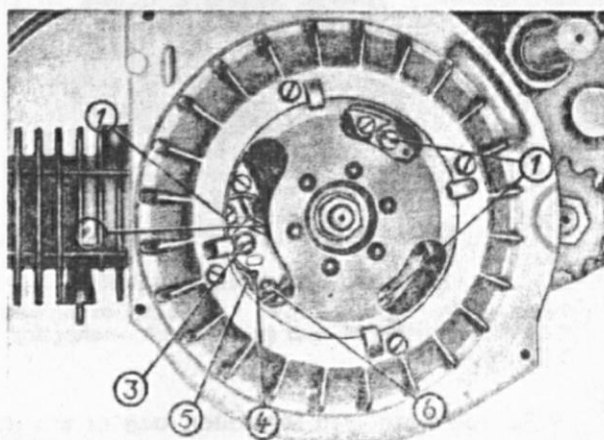

Fig. 17: Ignition and Lighting system
3. Mount magneto flywheel with blower fan (Fig. 3/6). Insert washer and tighten nut. Adjust ignition (Figs. 17, 18). Turn the magneto until the breaker points (Fig. 17/2), fully opened, become visible through the large aperture in the flywheel. Measure the contact gap, which should be 0.4 mm, with a feeler gauge.
Burnt contacts must be smoothed by means of a contact file. Any correction of the gap that may prove necessary can be performed by adjusting the position of the contact holder after loosening its fixing screw (Fig. 17/3). For this purpose there is a small recess (Fig. 17/4) in the contact holder, and opposite this recess are two stops (Fig. 17/5)
To find the exact moment of the breaker points opening, the following things are required: a motor-cycle battery (6 volt/4—6 amp.) and a bulb (6 volt/10 watt)*. Two 0.5 m (20 in.) long cables are soldered to the lamp, one to its socket (ground), the other to the positive contact. If a suitable lamp socket is used, there will be no need for soldering the cables to the lamp. It is advisable to attach crocodile clips to the cable ends. While the breaker points are closed, one cable of the control lamp is threaded through the large aperture of the flywheel and connected with the nut (Fig. 17/6) of the screw that clamps the breaker-lever spring. (This cable must not be brought into touch with ground.) The second cable is connected with the positive terminal of the battery. Another cable connected with the negative terminal of the battery is now brought into touch with ground (the engine), but not connected with it.
If the difference exceeds 0.5 mm, the required amount of spark advance will be achieved by turning the armature plate. To do this the armature plate fixing screws (Fig. 17/1), which are accessible through the flywheel apertures, are loosened. Turning the armature plate to the left (in the sense of engine rotation) will cause more spark advance, turning it to the right (against engine rotation) will give less advance.